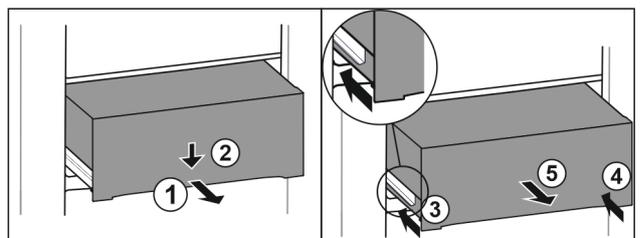

Fig. 127
- ▶ Pull out drawer half-way. Fig. 127 (1)
- ▶ Push the drawer down at the front. Fig. 127 (2)
- ▶ Push the left rail in by about 2 cm. Fig. 127 (3)
- ▶ Push the right rail in by about 2 cm. Fig. 127 (4)
- ▶ Remove drawer to the front. Fig. 127 (5)